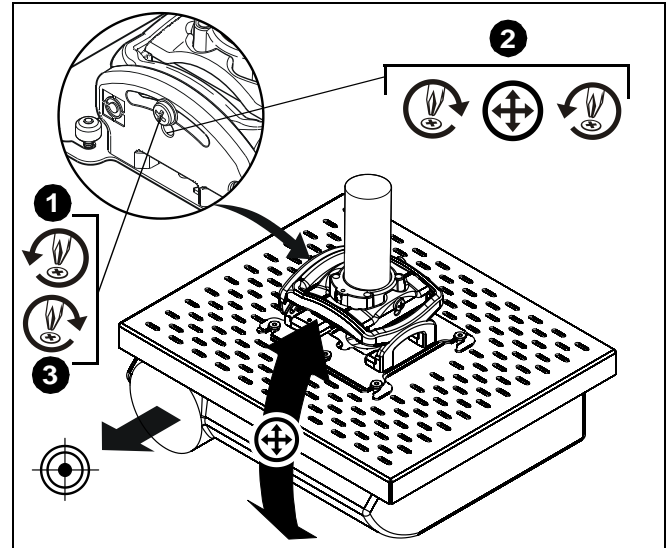

Figure 11
1. Loosen PITCH adjustment locking screw using a #2 Phillips screwdriver. (See Figure 11)